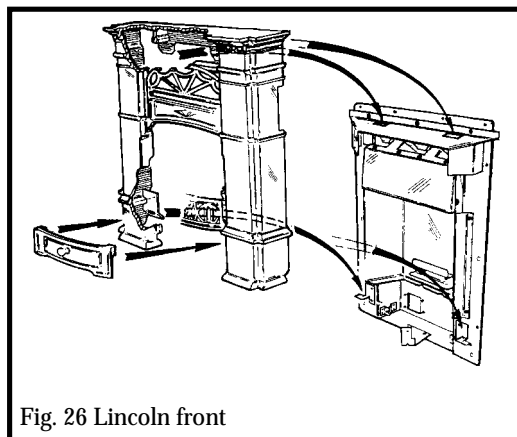

Fig. 26 Lincoln front
14.2.2 Raise the Cast front surround so that the lugs in the lower case support brackets and upper location plate are released from their locations in the fire unit – See figure 26. Lift the cast front clear and place safely.
14.2.4 Holding the cast front a little above the top surface of the convection box, locate the two lugs into the lower case support brackets and the upper location plate into the two slots in the upper case front support. Gently lower the cast front onto the hearth making sure that it causes no damage to the hearth or fireplace surround. The cast front should sit squarely on the hearth and against the vertical surface of the fireplace. See figure 26.